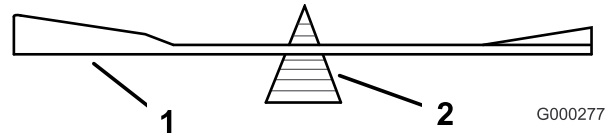

Figure 78
2. Check the balance of the blade by putting it on a blade balancer (Figure 78). If the blade stays in a horizontal position, the blade is balanced and can be used. If the blade is not balanced, file some metal off the end of the sail area only (Figure 79). Repeat this procedure until the blade is balanced.